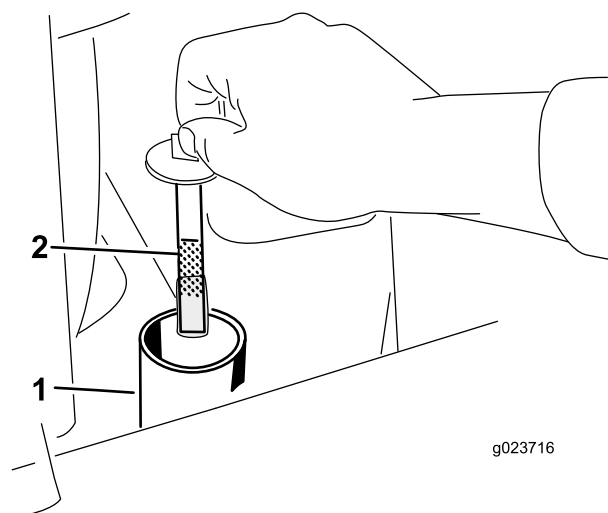

**Figure 12**
4. Clean the area around the filler neck of the hydraulic tank (Figure 12).